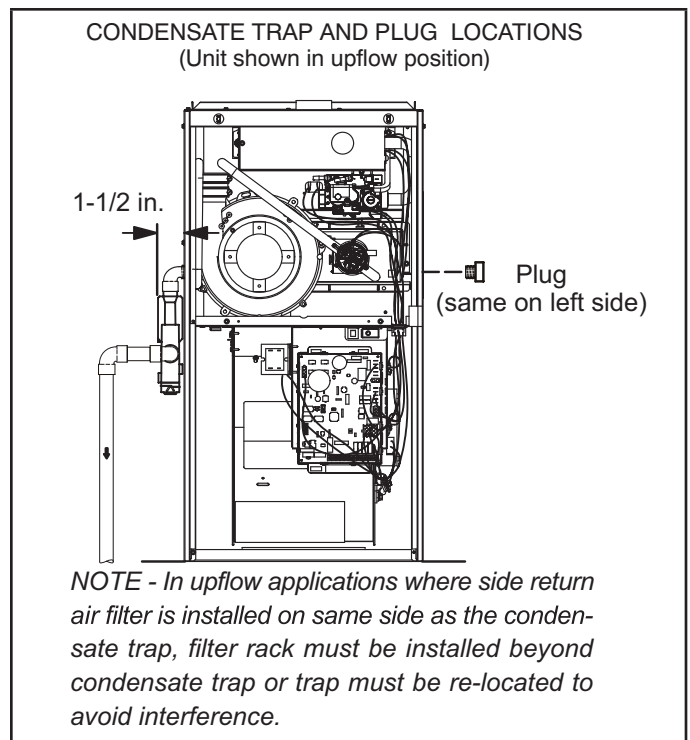
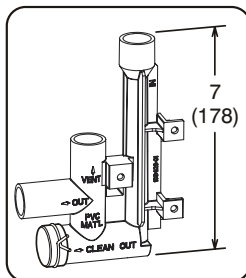

FIGURE 40
FIGURE 48
This unit is designed for either right- or left-side exit of condensate piping in upflow applications. In horizontal applications, the condensate trap must extend below the unit. An 8" service clearance is required for the condensate trap. Refer to FIGURE 40 and FIGURE 42 for condensate trap locations. FIGURE 48 shows trap assembly.
- 2 - For furnaces with a 1/2" drain connection use a 3/8 allen wrench and remove plug (FIGURE 40) from the cold end header box at the appropriate location on the side of the unit. Install field-provided 1/2 NPT male fitting into cold end header box. For furnaces with a 3/4" drain connection use a large flat head screw driver or a 1/2" drive socket extension and remove plug. Install provided 3/4 NPT street elbow fitting into cold end header box. Use Teflon tape or appropriate pipe dope
- 3 - Install the cap over the clean out opening at the base of the trap. Secure with clamp. See FIGURE 48.
- 4 - Install drain trap using appropriate PVC fittings, glue all joints. Glue the provided drain trap as shown in FIGURE 48. Route the condensate line to an open drain. Condensate line must maintain a 1/4" downward slope from the furnace to the drain.